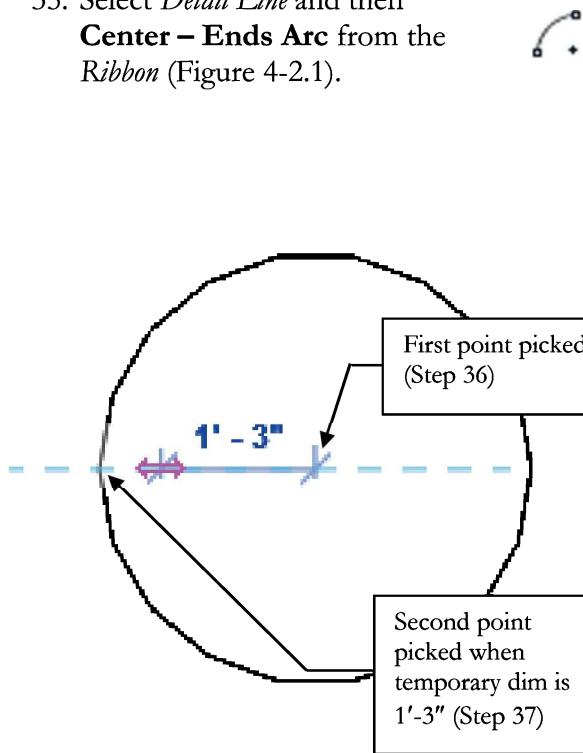

FIGURE 4-2.11 Sketching an arc; picking second point
36. *First Pick:* Pick a point somewhere in the middle of a new *Drafting View* named *Chair-2* (Figure 4-2.11).
37. *Second Pick:* Move the cursor towards the left, while snapped to the horizontal, until the temporary dimension reads **1'-3"** (Figure 4-2.11).
NOTE: As you can see, Revit temporarily displays a full circle until you pick the second point. This is because Revit does not know which direction the arc will go or what the arc length will be. The full circle allows you to visualize where your arc will be (Figure 4-2.11).